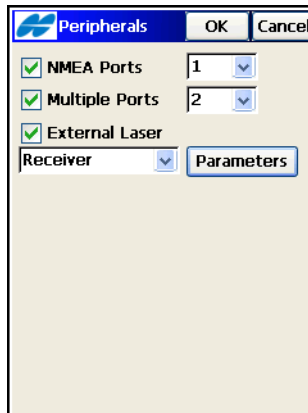

Figure 3-21. Rover Receiver Options
- **Peripherals** – opens the *Peripherals* screen with three options to select (Figure 3-21 on page 3-23):